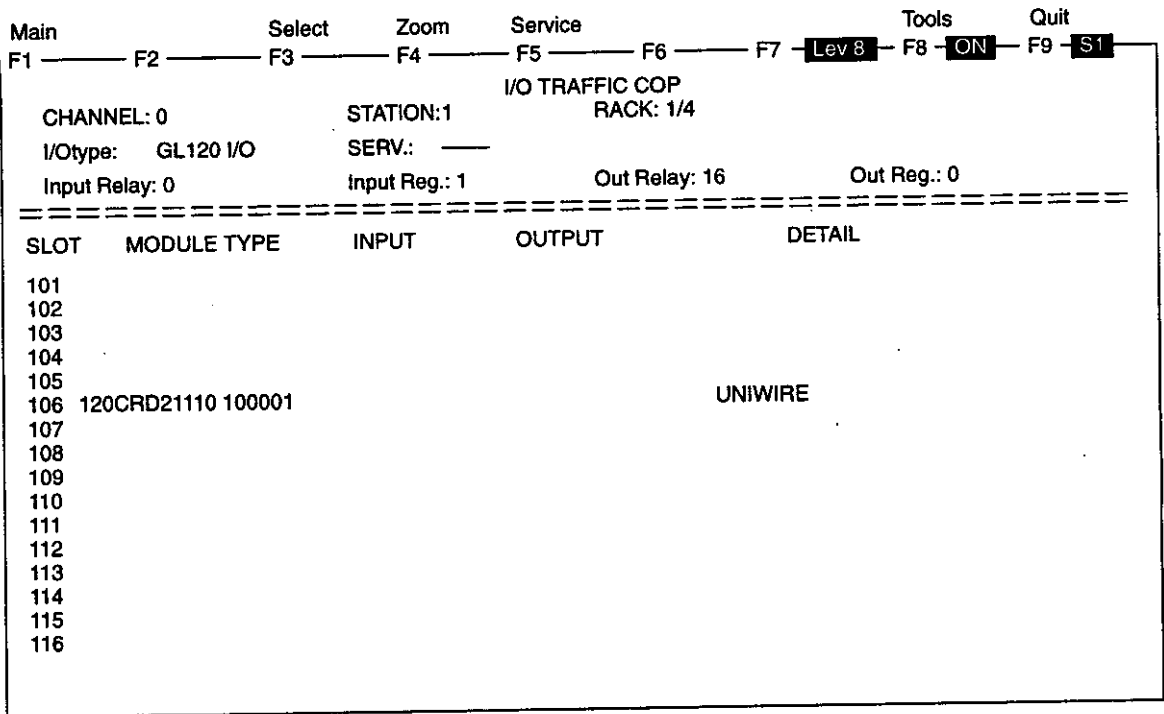

Figure 4.6 Reference Number of Leading Input Relay
- f) Move the cursor to the number of points for input allocation and enter the leading input relay number. The leading input relay number must be 100000 plus a multiple of 16 plus one (1, 17, 33...). (*Figure 4.6*)